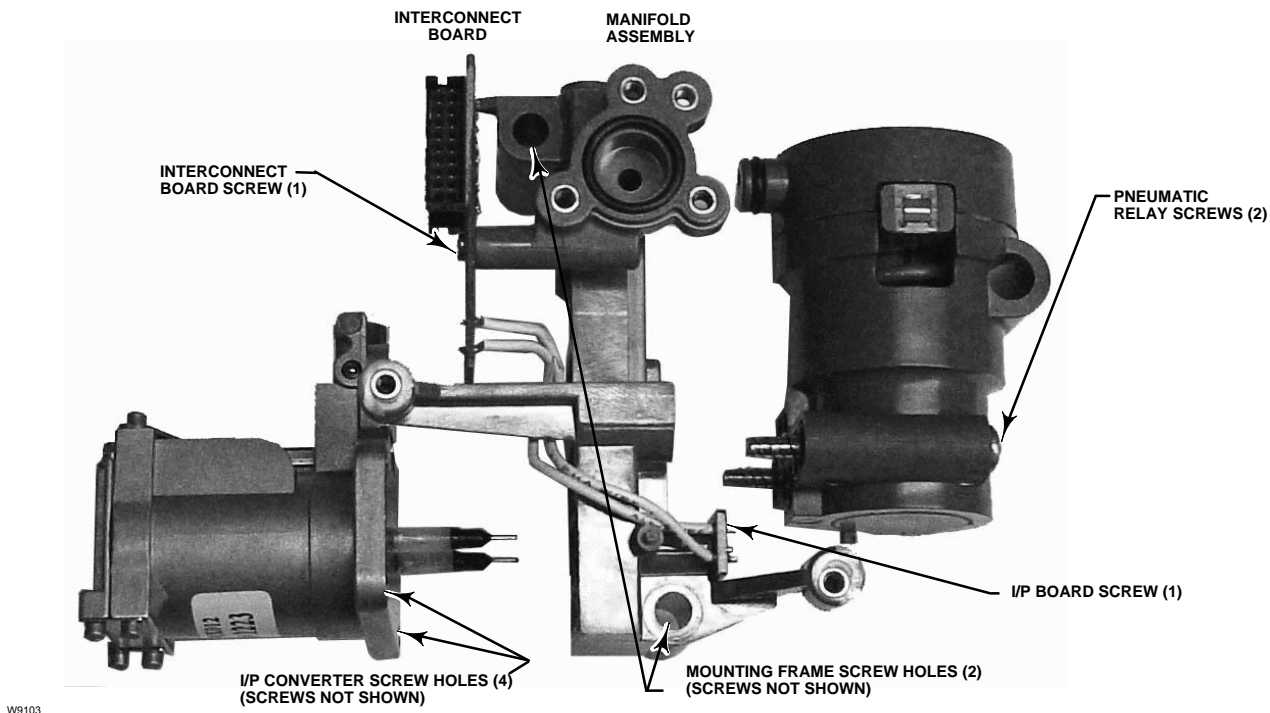

Figure 6-2. Mounting Frame Assembly
5. Remove the two screws holding the mounting frame to the instrument housing (refer to figure 6-2).
8. Remove the four screws holding the I/P converter to the mounting frame (refer to figure 6-2 for location of screws).
5. Remove the two screws holding the mounting frame to the instrument housing (refer to figure 6-2 for location of screws).